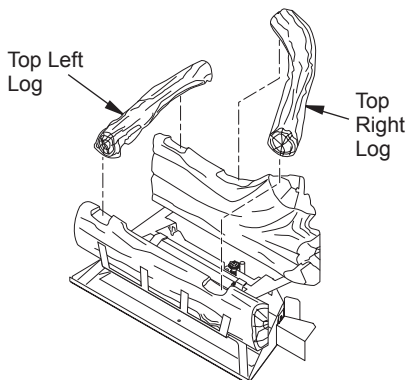

Figure 23 - Installing Top Left and Right Logs
- Place top right log into notches on left side of front and rear (see Figure 23).
- Place top left log into notches on right side of front and rear (see Figure 23).